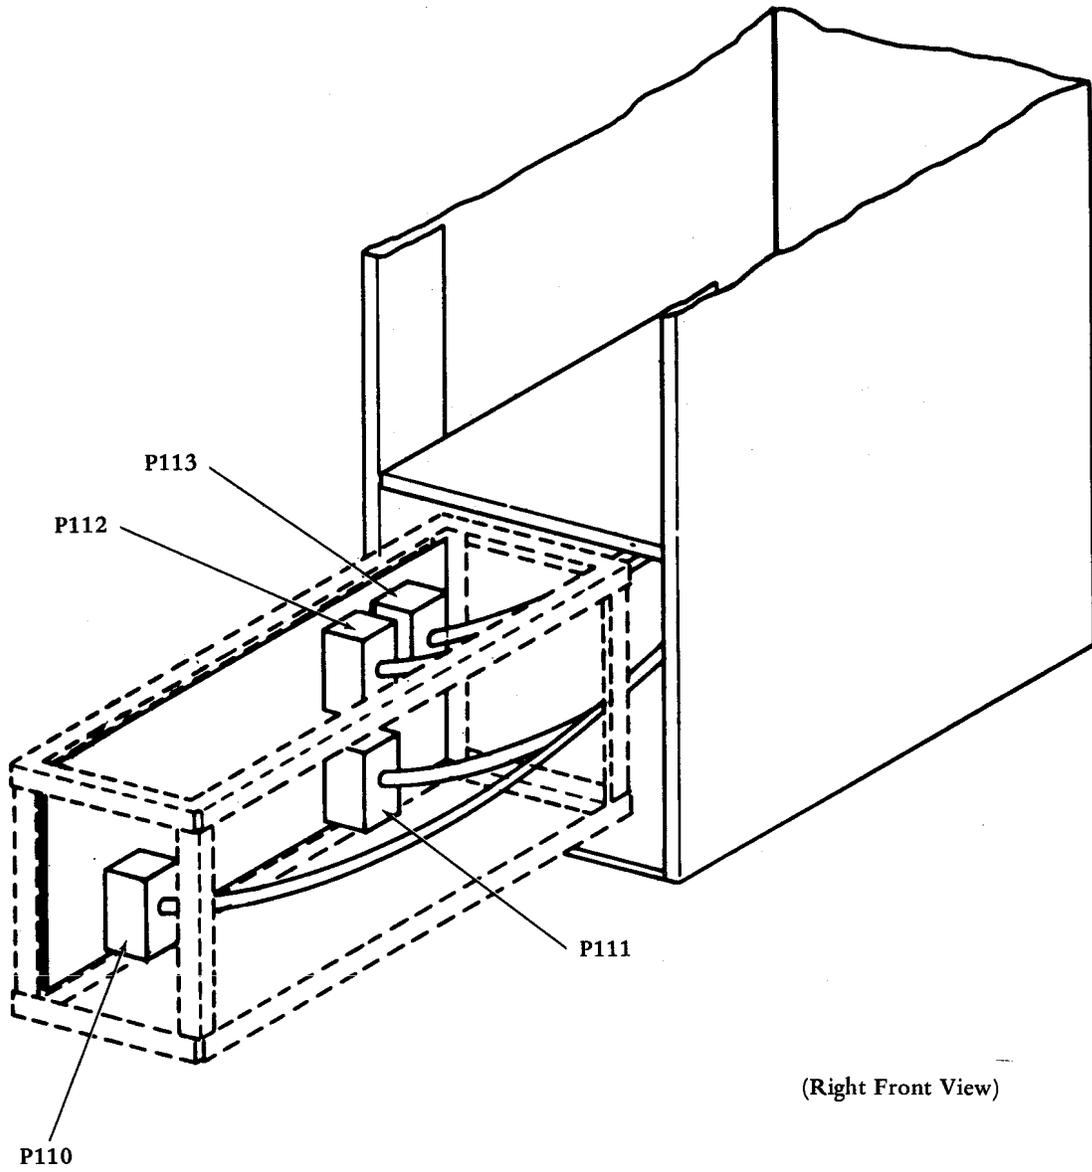

Figure 6 - Cabinet With Module Extended
- (2) Pull module out part way, loosen connector screws, and unplug head service cable connector P110, cabinet service cable connector P111, low speed interface cable connector P113 (if used), and high speed interface cable connector P112 (if used) from connector board (TP337297) (Figure 6).